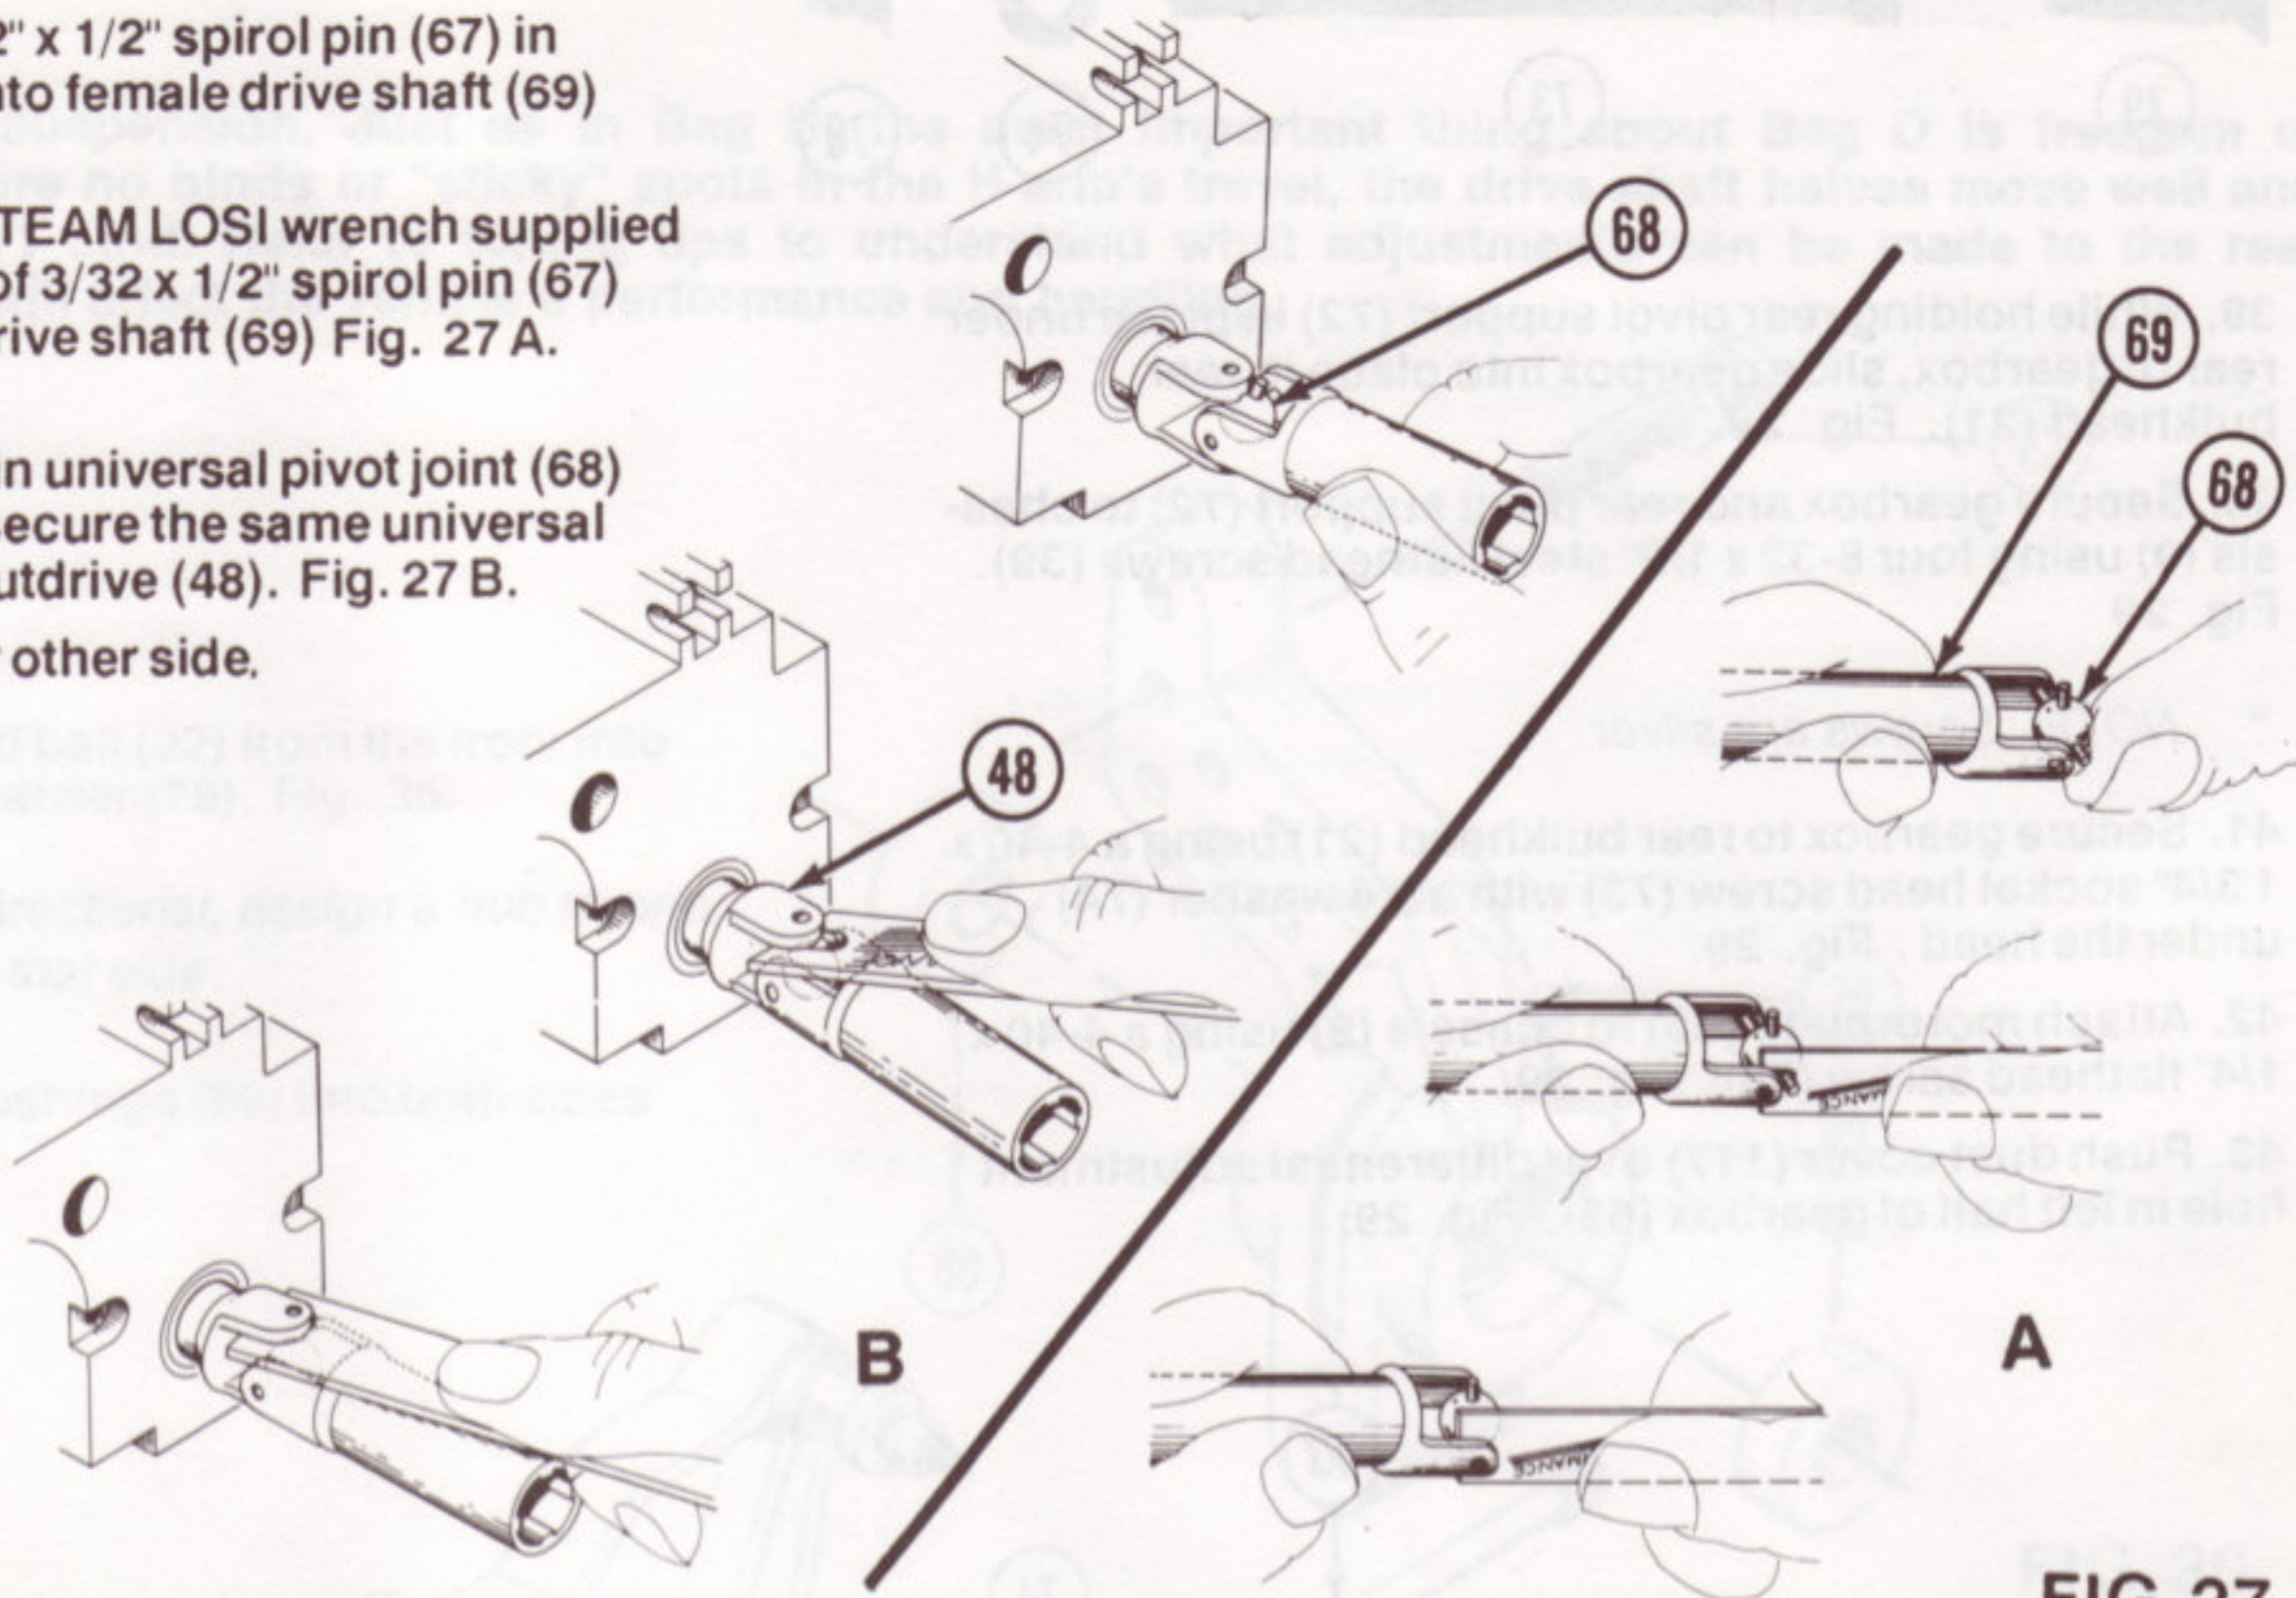

FIG. 27
33. Wedge one end of 3/32" x 1/2" spirol pin (67) in universal pivot joint (68) into female drive shaft (69) Fig. 27 A.
34. Using rounded end of TEAM LOSI wrench supplied with kit, pry opposite end of 3/32 x 1/2" spirol pin (67) into other side of female drive shaft (69) Fig. 27 A.
35. Using remaining pins in universal pivot joint (68) repeat steps 33 and 34 to secure the same universal pivot joint (68) to U-joint outdrive (48). Fig. 27 B.